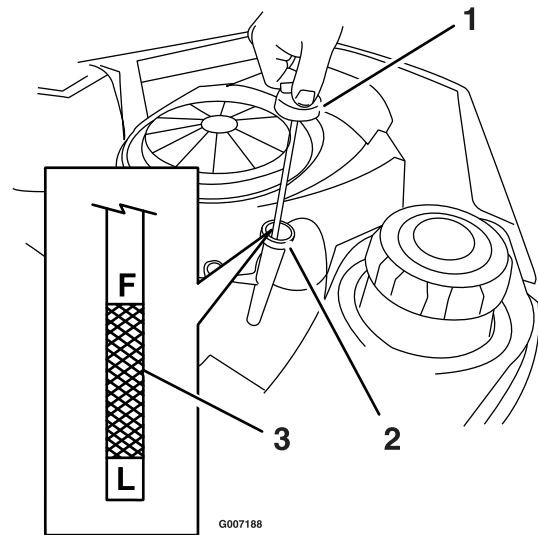
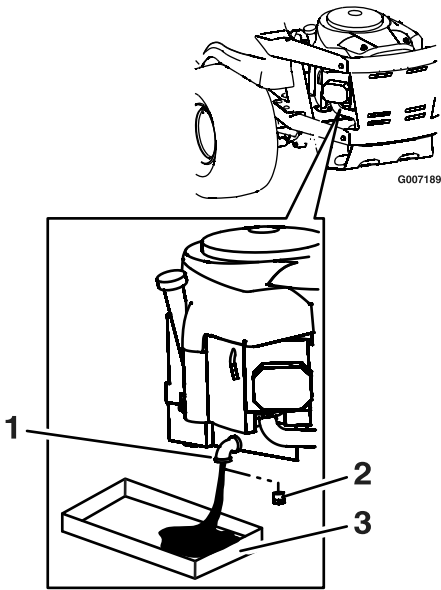

Figure 20
Figure 21
4. Pull and remove the oil fill cap/dipstick; wipe oil off. Reinsert the dipstick and push firmly into place (Figure 20).
4. Clean the area around the drain plug and on the machine frame. Place a pan underneath machine directly below the drain hole in the frame as shown in Figure 21.
5. Remove the oil drain plug (Figure 21). Remove the oil fill cap/dipstick (Figure 20).
in-lb) torque. Wipe up any excess oil on the frame (Figure 21).
13. Check the oil level (Figure 20); refer to **Checking the Oil Level**.